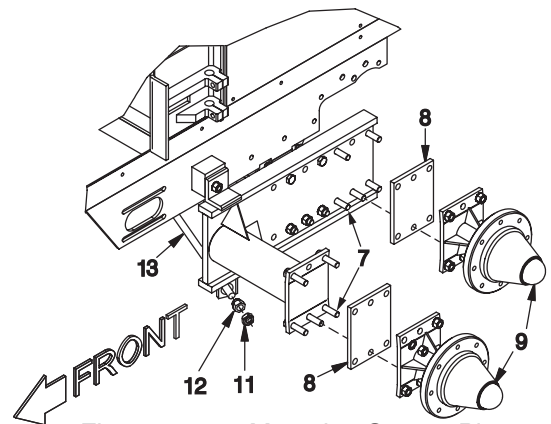

Figure 2-3-4 - Mounting Spacer Plates, Hubs & Truss Rod
B. (See Figure 2-3-4) Place (10) Item 7 Bolts in the Tandem Plate. Place (2) Item 8 Spacer Plates on the tandem plate followed by (2) Item 9 Hub and Spindle assemblies. Place all star washers and nuts so the hub and spindle and secure. Torque all nuts and bolts as per torque chart on page 2-3-1.
C. Place (1) Item 13 Truss Rod as shown in Figure 2-3-4. Secure truss rod finger tight with (2) Item 12 Truss Rod Nuts and (2) Item 11 Jam nuts.